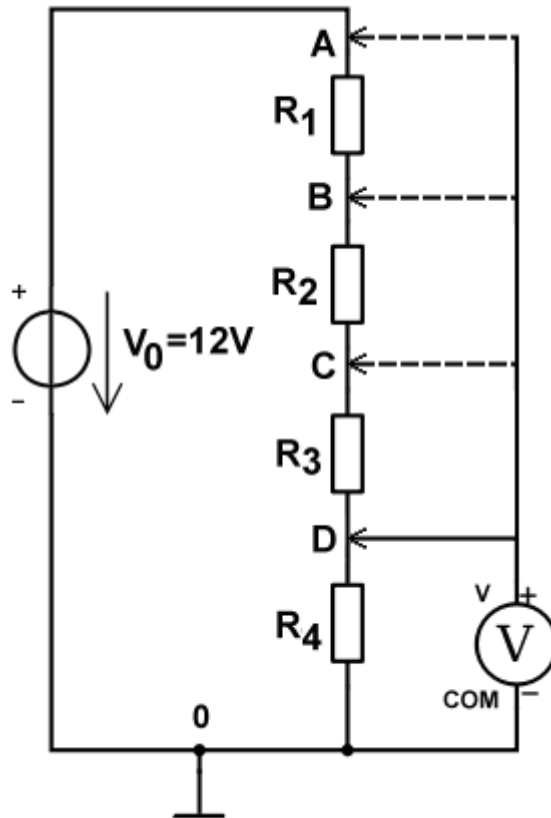

Figure 1.3
1.3.3 Using the same circuit, now connect the COM input of the voltage meter to the reference point of the circuit indicated by a 0 (the negative pole of the power supply) as in figure 1.3.